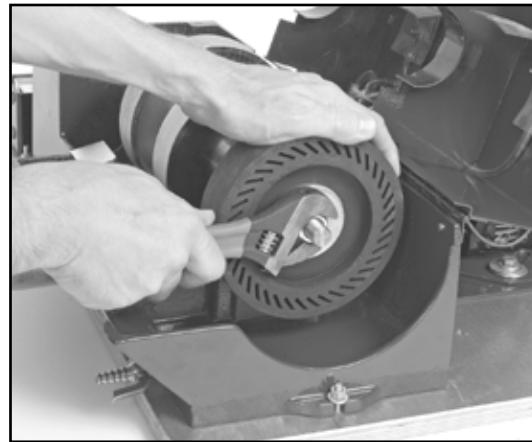

Fig 47 - Remove the jam nut
8. Hold the expandable drum in one hand to keep the shaft assembly stationary and with an adjustable or box wrench, remove the jam nut on the right end of the unit by turning it counter-clockwise (fig 47).